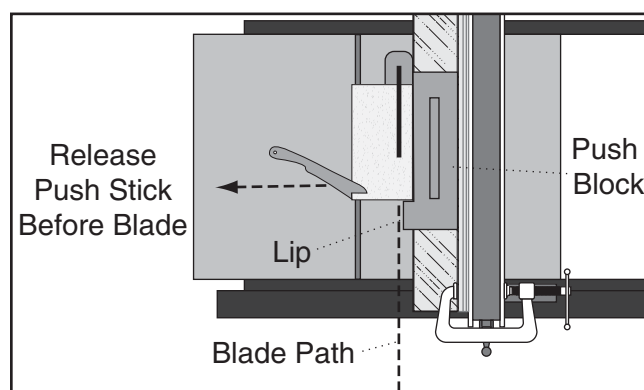

Figure 96. Ripping with push block.
6. Guide the workpiece the rest of the way through the cut with the push block, as shown in **Figure 96**.